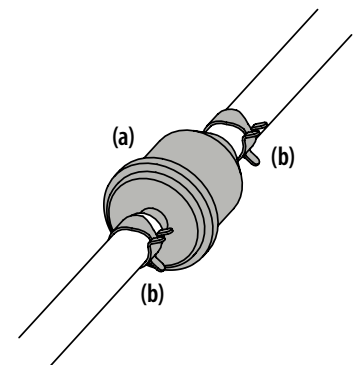

Figure 5-32
5. To remove the in-line fuel filter, use pliers to squeeze tabs on the clamps (b), then slide the clamps (b) away from the in-line fuel filter (a). Twist and pull the fuel lines off of the in-line fuel filter (a). See Figure 5-32.